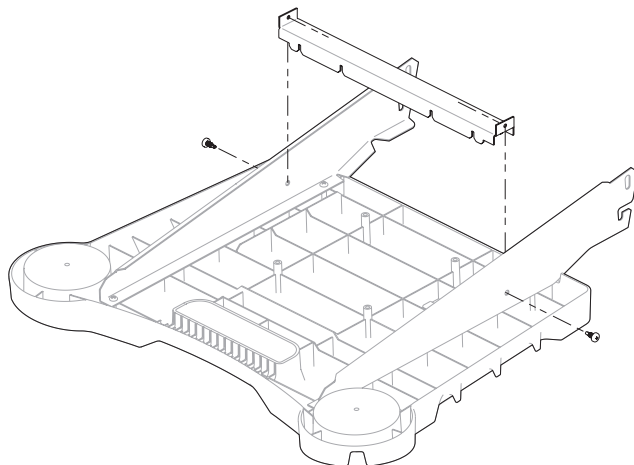

Figure 4
6. Hang the side brackets on the lower pins of the Bracket Attach Assembly. Tighten the two 10-16 x 1/2" phillips screws from step 5. See Figure 4.